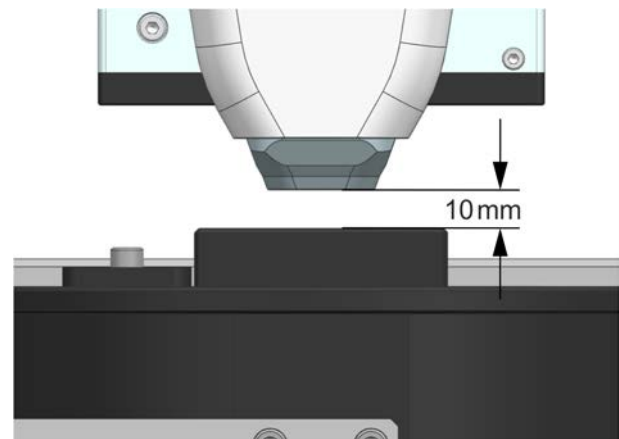

Fig. 21: Drying position
4. Move applicator slowly upwards out of the cleaning position. The drying position is reached if the distance between lower edge of the applicator and upper edge of the applicator mount is 10mm, Fig. 21.